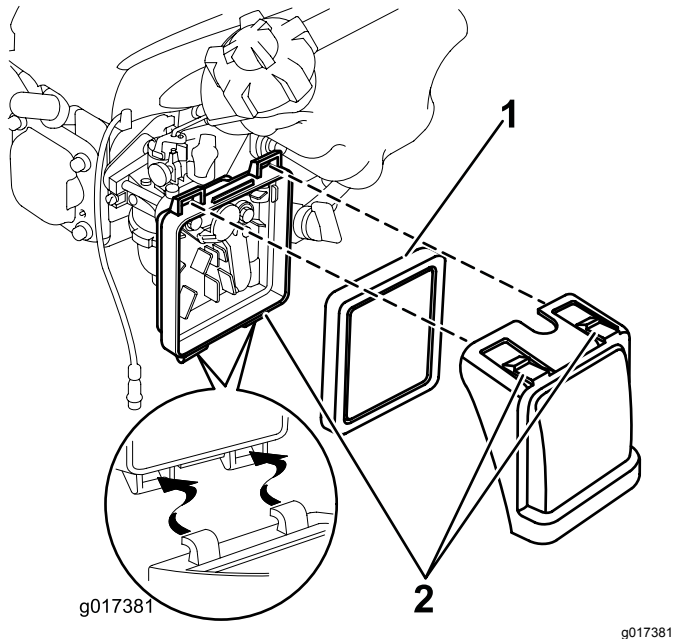

Figure 17
1. Press down on the latch tabs on top of the air cleaner cover (Figure 17).
2. Open the cover (Figure 17).
3. Remove the filter (Figure 17).
6. Insert the filter into the air cleaner (Figure 17).
7. Install the cover (Figure 17).